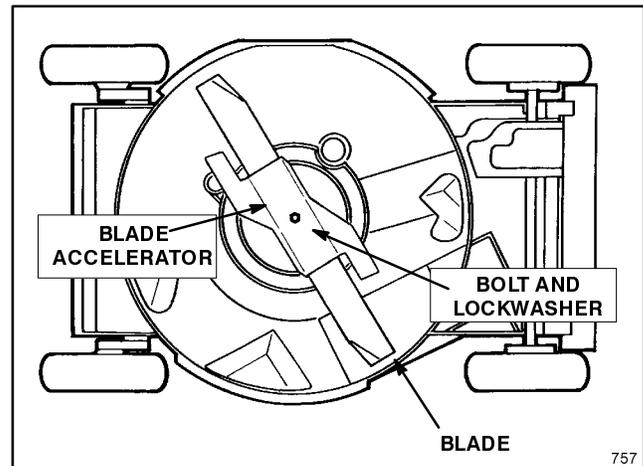

Figure 25
3. Tip mower on its right side (Fig. 25). Avoid rotating blade as starting problems may result.
5. REMOVING BLADE—Grasp end of blade using a rag or thickly padded glove. Remove blade bolt, lockwasher, blade accelerator, and blade (Fig. 25).